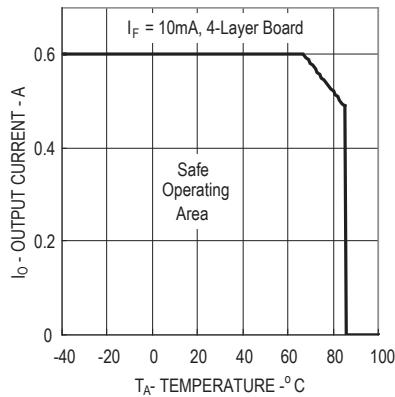

Figure 1. Maximum Output Current Rating vs Ambient Temperature (ASSR-1410-003E)
- For derating, refer to Figure 1, 2, 3 and 4.
Derating curves are shown in Figures 1, 2, 3 and 4, specifying the maximum output current allowable for a given ambient temperature. The maximum allowable output current and power dissipation are related by the expression $R_{ss}=P_o(\text{max})/(I_o(\text{max}))^2$ from which R_{ss} can be calculated. Staying within the safe area assures that the steady state MOSFET junction temperature remains less than 125°C .